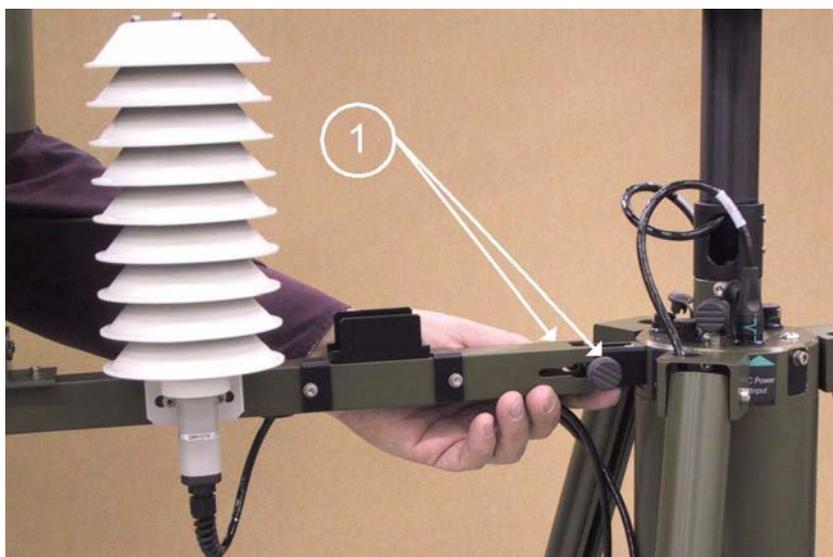

Figure 38 Sensor Arm Attachment
5. The temperature and relative humidity probe (with radiation shield) and the rain gauge are already assembled to the sensor arm which is in case QTR101. Install the arm to the tripod. Push the arm in place and tighten the two hand screws (number 1 in Figure 38 on page 49).